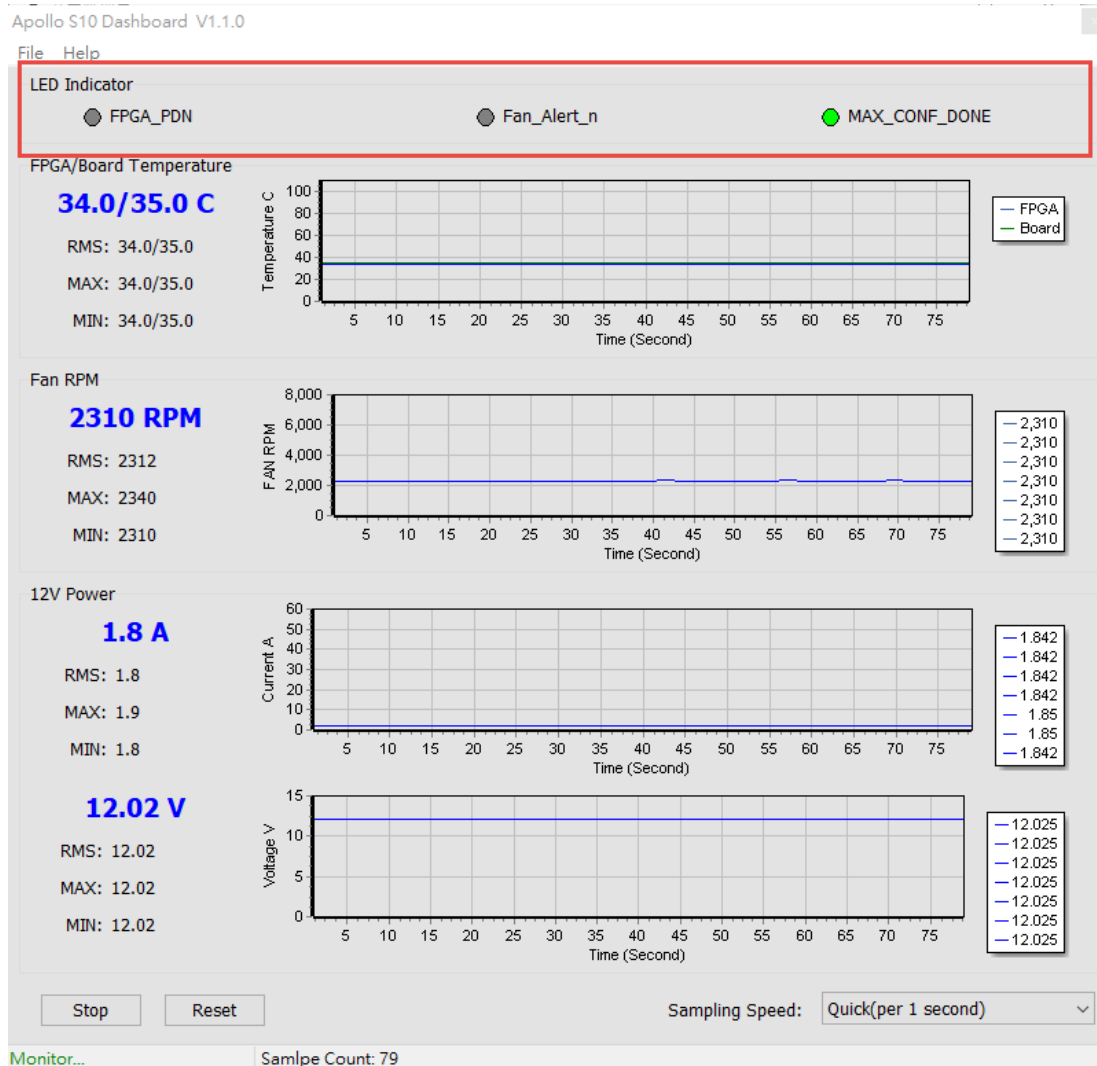

Figure 4-8 FPGA Status section
- **FPGA Status:** As shown in Figure 4-8, it will show the status LED number on the Apollo S10 board. For these LEDs function, please refer to section 2.2. **Note that “MAX_CONF_DONE” stands for FPGA configure done status. There is no LED on Apollo S10 board to display status. When this status is shown in green on the GUI, it means that FPGA configuration has been completed.**